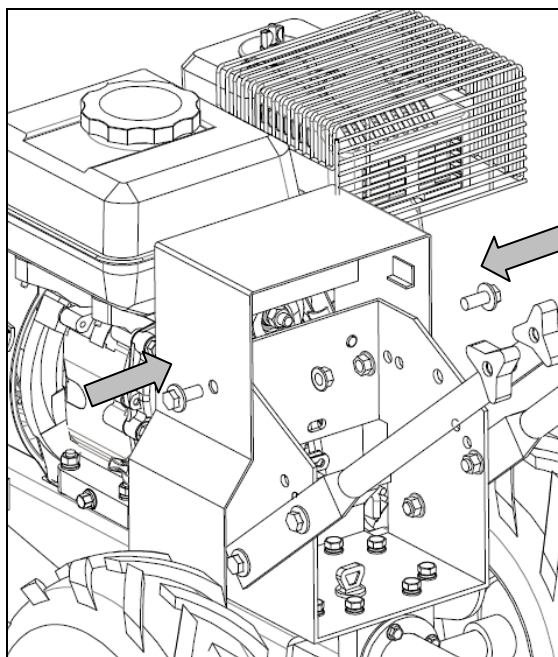

Fig.15
8. Put the belt cover on the tiller base (Fig.15).